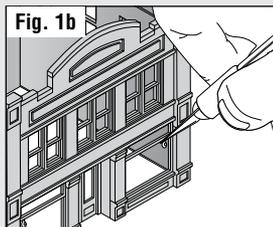

Fig. 1b
- Remove the two sprue pieces located in each of the large front windows using a hobby knife, then discard. (**Fig. 1b**)